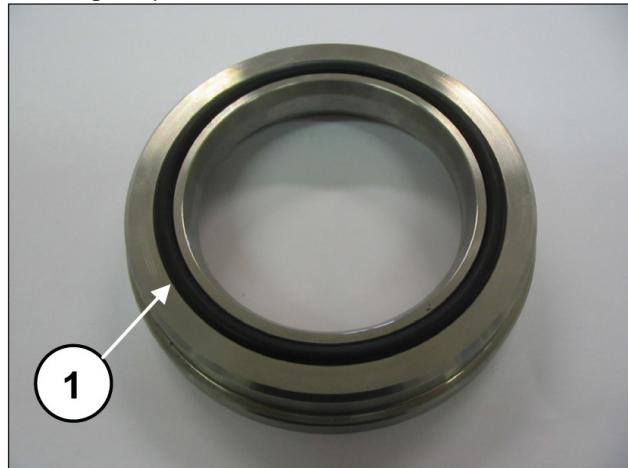

Fig. 200
Now assemble the O-ring (pos. ①, Fig. 200) on the KC seals head ring and position it in the seat on the head.